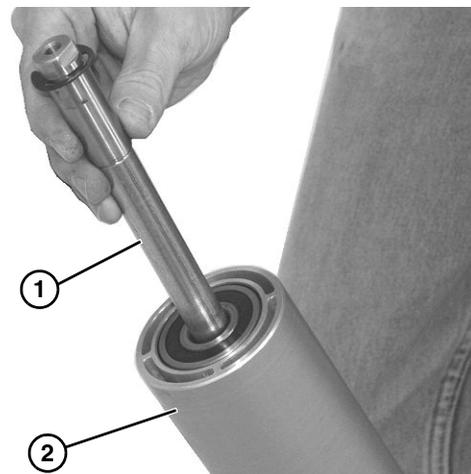

Figure 46
6. Slide the shaft assembly (Figure 46, item 1) out of the pulley (Figure 46, item 2).